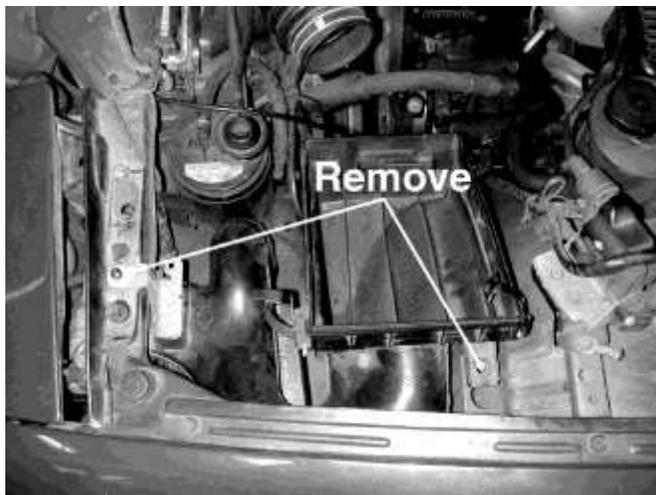

Fig. 6
- j. Loosen the two bolts that secure the lower air box and duct. (Fig. 6)